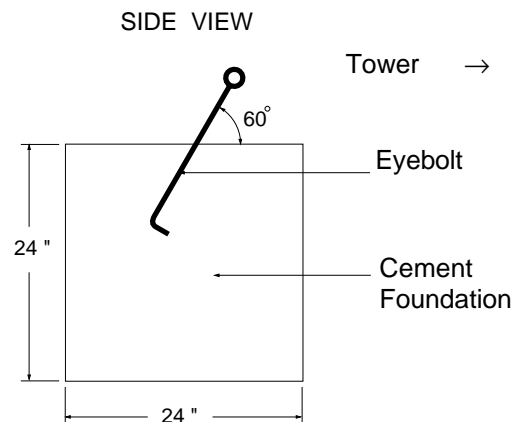

FIGURE 2.1-6. UTEYE Eyebolt Guy Anchor
3. Fill the holes with concrete and install the eyebolts as shown in Figure 2.1-6.